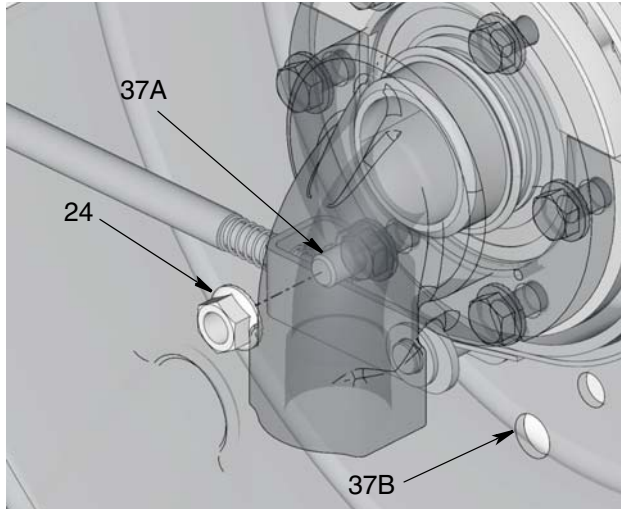

FIG. 16: 37A shows the new location of anchor pin (37). 37B shows the previous location of anchor pin (37).
16. Install anchor pin (37) to frame (FIG. 16). Reinstall nut (24) over anchor pin (37) and tighten securely (FIG. 16).